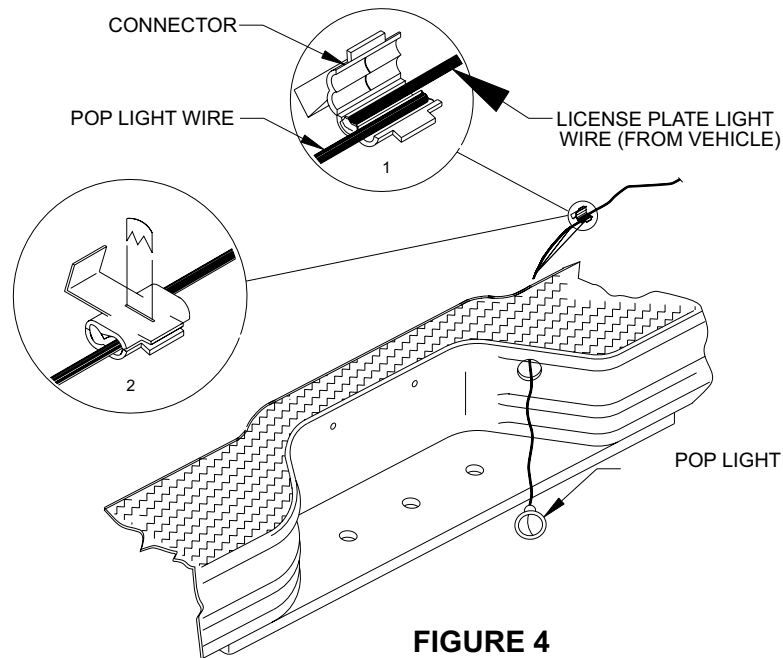

FIGURE 4
STEP 5: Install pop lights into bumper (figure 4). Using supplied connectors, splice pop light wires into truck illumination wire as shown in figure 4. Make sure license plate lights are working properly.